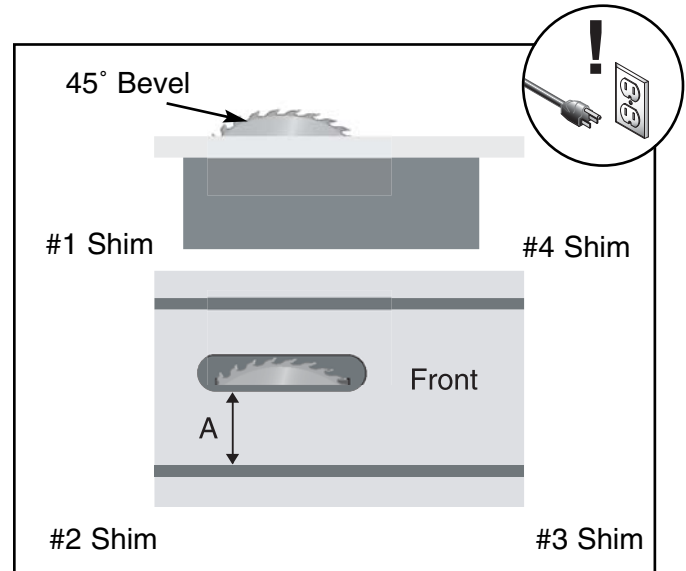

Figure 40. 45° blade parallelism measurement.
11. Refer to **Figures 40 & 41**, for shim placement. If the distance of A is shorter than B, shim(s) will need to be placed under corners #1 and #2. If the distance of B is shorter than A, shim(s) will need to be placed under corners #3 and #4. Very thin shim stock works well, just make sure they are all the same thickness, and you put an equal number under each of the two corners.